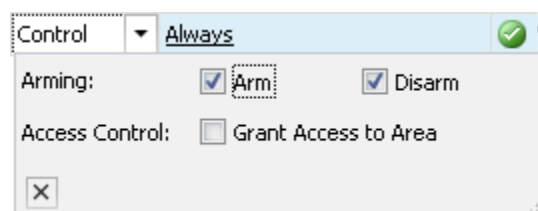

Figure 21
9. Depending on the entity selected in the "What" column, the "Options" column may have a drop-down selection available. *Figure 21* is an example of the area control options.